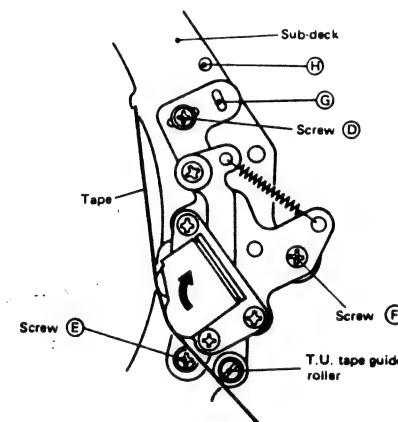
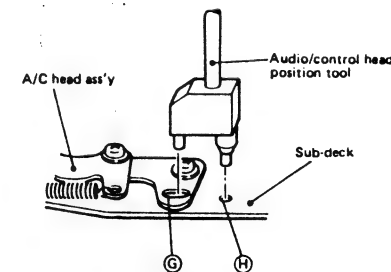

Fig. 2-50
Fig. 2-51
6. Loosen the three screws (D), (E) and (F) and slide the audio/control head assembly fully in the direction of the drum (indicated by the arrow) as shown in Fig. 2-50.
7. Slightly tighten the three screws (D), (E) and (F) and play staircase segment of the alignment tape MH-2.
8. Set the audio-control head position tool (PUJ44653) as shown in Fig. 2-51.